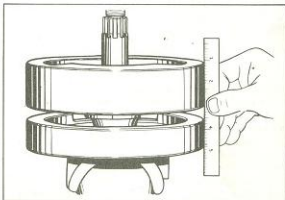

Figure 3-43. Squaring Flywheel Faces
2. Position right flywheel assembly in vise, crank pin up. Wipe crank pin taper clean. Slip bearings and connecting rods over crank pin with forked rod to rear cylinder. Wipe crank pin hole in left flywheel clean and dry. Install left flywheel and tighten nut lightly. Hold steel straightedge along outer face of wheel rims at 90 degrees from crank pin as shown in Figure 3-43. Tap outer rim of top wheel until wheels are concentric. Tighten nut, recheck with straightedge at frequent intervals. Use soft metal hammer to realign wheels. To prevent flywheel assembly from turning in vise while tightening nut, insert a rod 5 in. long and about 1/2 in. in diameter through holes in flywheels and between vise jaws so that rod bears against some part of the vise.